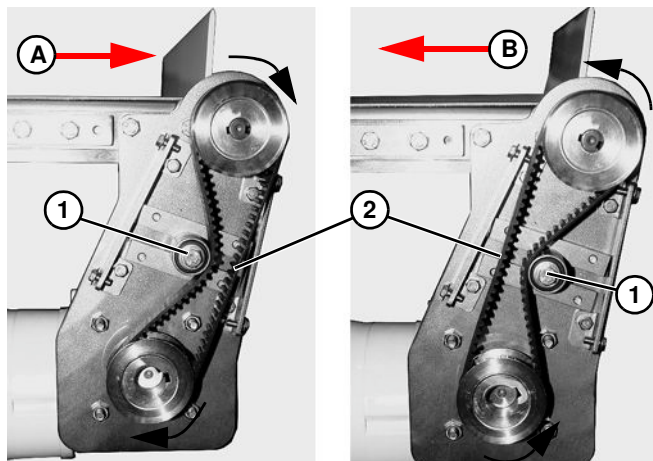
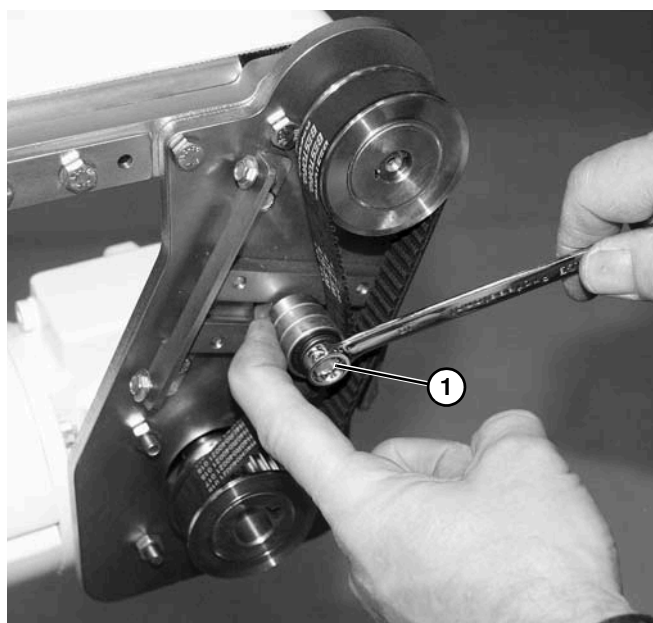

Figure 28
Figure 29
- Depending on conveyor belt travel (direction A or B of **Figure 28**), locate timing belt tensioner (**Figure 28, item 1**) as shown. Do not tighten tensioner screw. Tension timing belt to obtain 3 mm (1/8") deflection for 4.3 N (1.0 lb) of force at timing belt midpoint (**Figure 28, item 2**). Tighten tensioner screw (**Figure 29, item 1**).